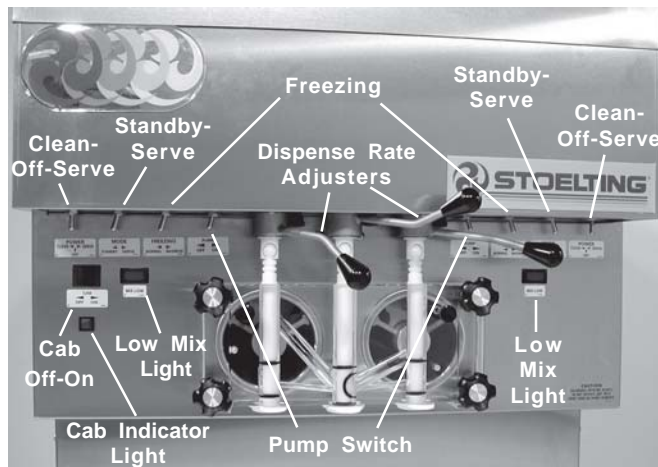

Figure 11. Operating Controls
- F. Place the CLEAN-OFF-SERVE switches in the OFF position before continuing. Figure 11.
Before operating the freezer, it is required that the operator know the function of each operating control. Refer to Fig.11 for the location of the operating controls on the freezer.